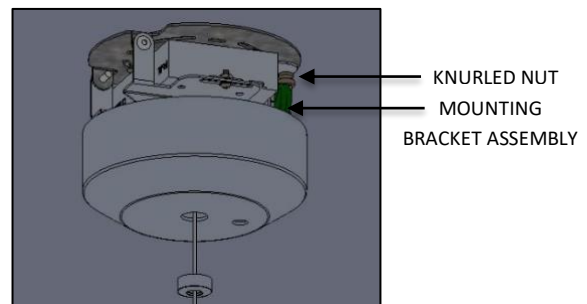

FIG. 13 – MOUNTING BRACKET ASSEMBLY
4. Tighten KNURLED NUT to secure DRIVER MOUNTING BRACKET to MOUNTING PLATE. As shown below in Fig. 13.